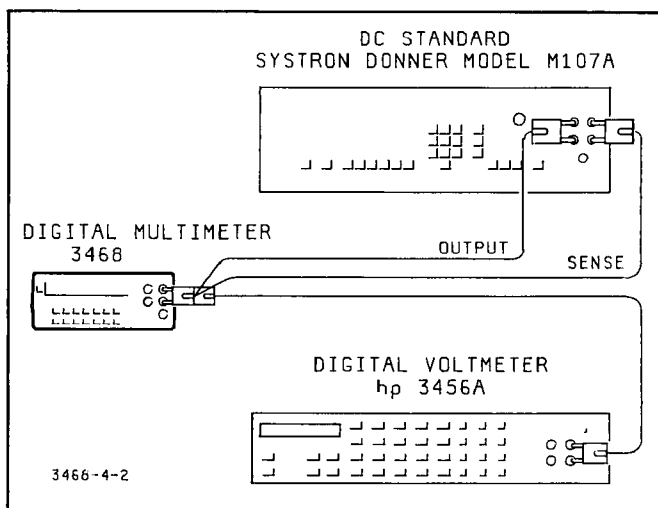

Figure 4-2. DC Volts Accuracy Test
g. Connect the 3468A/B to the Digital Voltmeter and DC Volts Standard, as shown in Figure 4-2. Use the Digital Voltmeter as the standard and the DC Standard as the power supply. An example on how the Digital Voltmeter and DC Volts Standard checks the 3468A/B accuracy using the multimeter's 3V Range, is as follows: